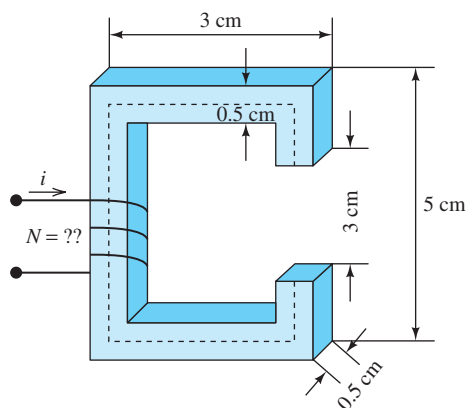

FIGURE P12.23 Magnetic circuit with air gap.
12.23 (H) It is desired that the gap in Figure P12.23 has a flux density of $B = 5$ T. Given $\mu_{\text{rcore}} = 2000$ and $i = 3$ A, find the required turns ratio, N .